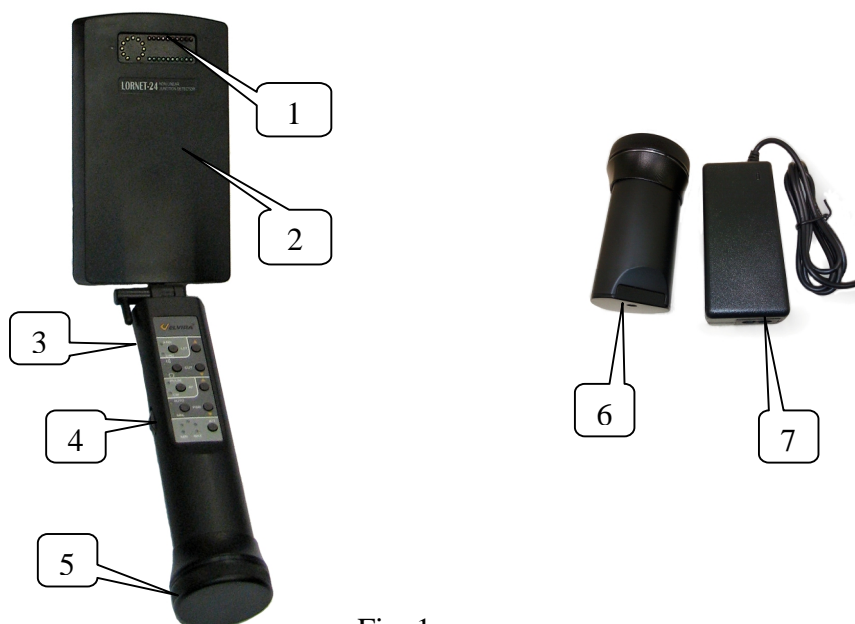

Fig. 1
The appearance of the device is shown in Fig. 1, where:
4.5. Battery charging of the duplex antenna unit is to be made with a battery charger included to the delivery set only (Fig.1). Using other chargers is not allowed. For charging it is necessary to twist a cover at the edge of the arm off, remove a battery and place it into the container for charging (Fig.1). Connect the container to the charger.